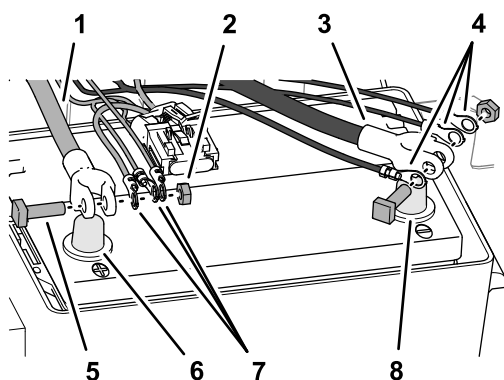

Figure 156
4. Remove the T-bolts and hex nuts from the terminals of the positive and negative battery cables (Figure 156).